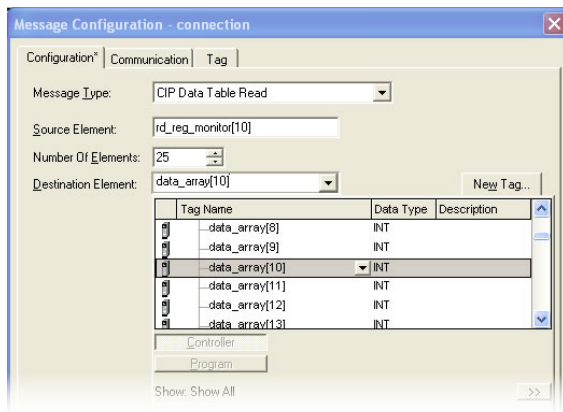

Figure 103: Selecting the Destination Element
iv) For the Destination Element, either directly type in “data_array[10]”, or select element #10 in the data_array tag via the drop-down box (refer to Figure 103). The destination could be any offset in the data_array tag, as long as the offset plus the Number Of Elements (25) does not exceed the tag’s defined size (62).